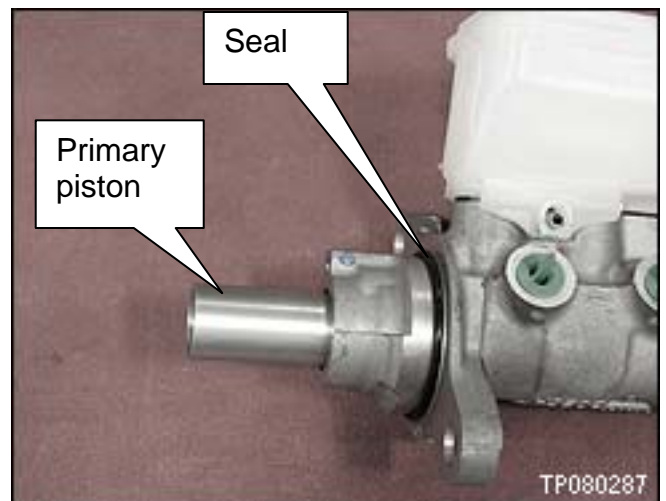

Figure 17
- Make sure the brake master cylinder to booster seal is in place and fully seated as shown in Figure 17.